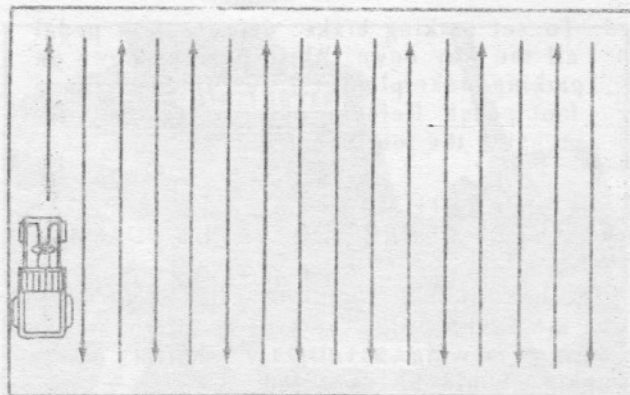

FIG. 14
5. For excessively moist grass, you may prefer to cut in a back and forth pattern, as shown in Fig. 14.